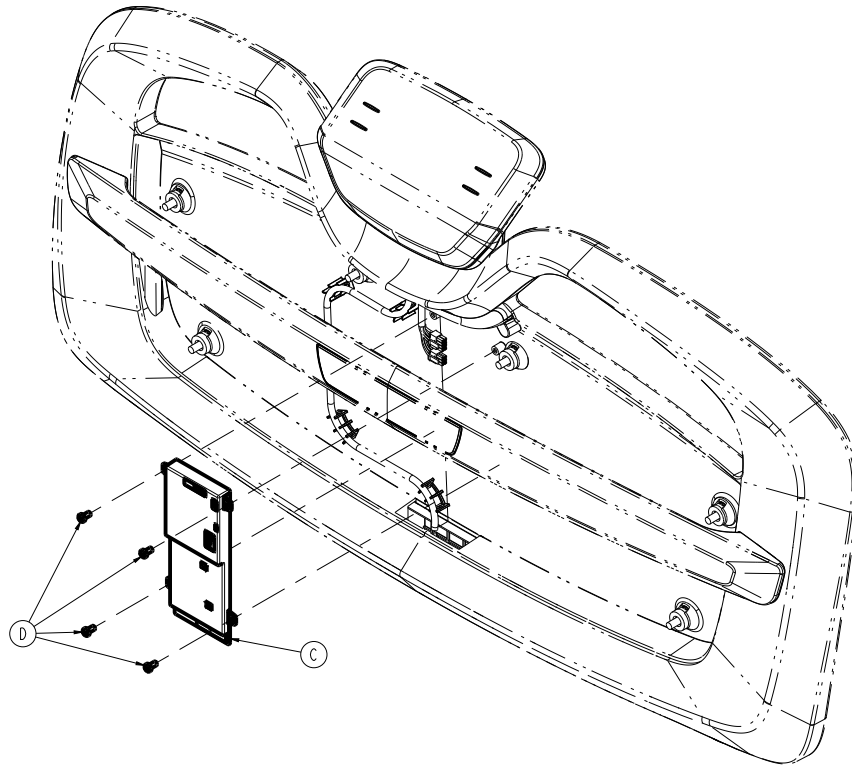

Figure 38 – Replacing the wireless module
7. Using a T20 Torx driver, remove the four screws (D) that secure the wireless module (C) to the footboard (Figure 38). Let the wireless module hang.